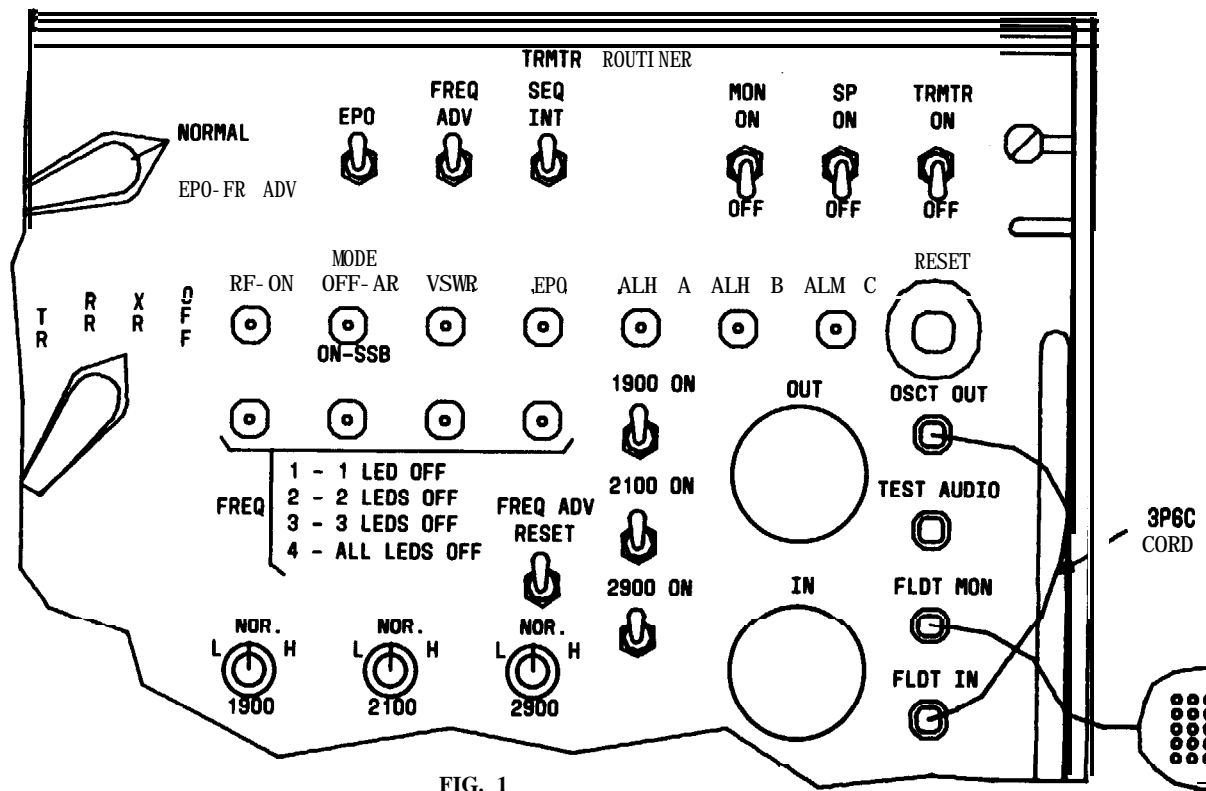

FIG. 1
- [2] SEE FIG. 1 AND NOTE 1. SET SWITCHES SHOWN IN TABLE B _____